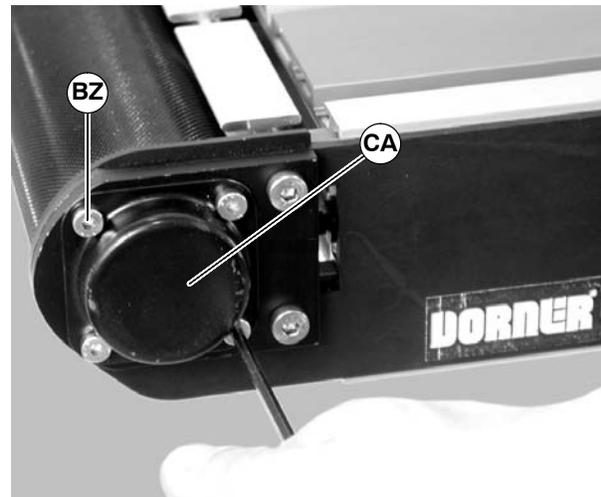

Figure 58
3. Remove four shaft cover screws (BZ of Figure 58). Remove the shaft cover (CA).